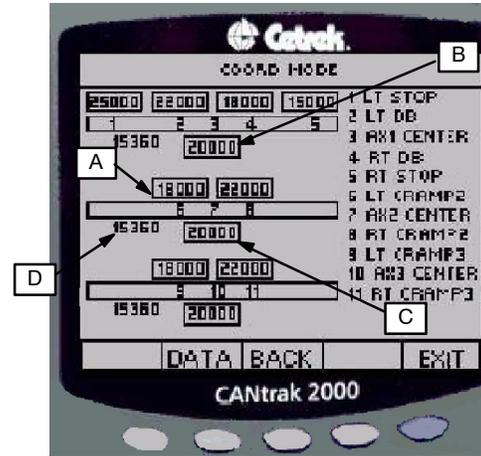

Figure 11. Encoder Value Screen Showing Axle 2 Information
2.1.13 Axle 2 Values (see Figure 11)